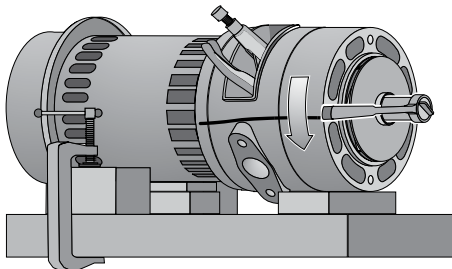

Figure 19
- Step 8. Hold the motor shaft with pliers or vice grips through the opening in the pump adapter. Unscrew the impeller nut off the end of the shaft (see Figure 19).